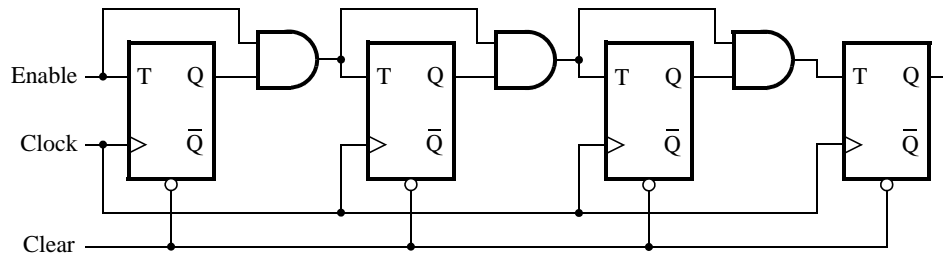

Figure 2: A 4-bit counter.
Consider the circuit in Figure 2. It is a 4-bit synchronous counter which uses four T-type flip-flops. The counter increments its value on each positive edge of the clock if the *Enable* signal is asserted (logic-1). The counter is reset to 0 by setting the *asynchronous Clear* signal low; i.e., the *Clear* signal is an asynchronous reset. You are to implement a 16-bit counter of this type.
1. Write a Verilog file that defines a 16-bit counter by using the structure depicted in Figure 2. Your code should include a T flip-flop module that is instantiated sixteen times to create the counter. Compile the circuit. Use the Technology Map and/or RTL netlist viewers in Quartus to examine the structure of the synthesized circuit.